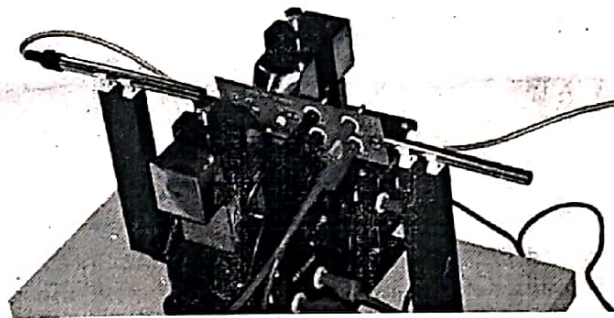
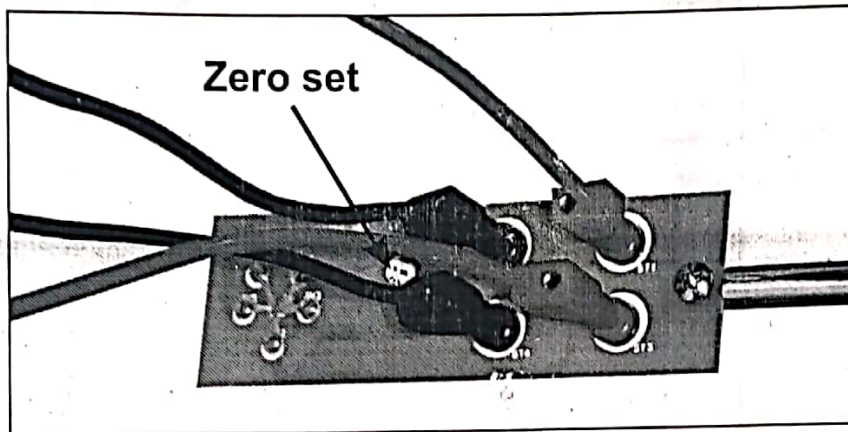

Fig. 4
Fig.5
- (3) Put the Hall probe at the center in between the pole pieces of electromagnet and parallel to the crystal as shown in figure 4
- (4) Ensure that the sample is located at the center in between the pole pieces of the electromagnet and perpendicular to the magnetic field.
- (5) Connect the terminals of the constant current source to the sockets provided on the PCB and also connect a millivoltmeter/multimeter to the sockets provided on the PCB.
- (6) Set the Hall voltage at zero in the multimeter through the pot provided on the PCB as shown in fig.5, when a current of 5ma from the constant current source is being passed and the Gauss meter shows zero reading.